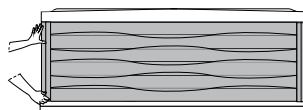

Figure 13.2a
1. Grab one of the corner panels, from the bottom, and gently pull the cabinet forward to unsnap it from the holding clip. Then slide it down to remove. Place the panel in a safe location to prevent from damaging it. Repeat the steps to remove the other corner panel, Figure 13.2a.